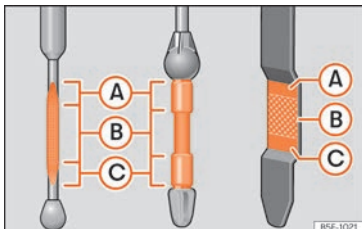

Fig. 224 Engine oil dipstick.
- Then pull it out once more and check the oil level » Fig. 224. Top up with engine oil if necessary.
- When the oil level reaches at least zone » Fig. 224 (B), unscrew the engine oil filler cap carefully » ⓘ.
If the oil level is above area »» Fig. 224 (A), do not start the engine. This could result in damage to the engine and catalytic converter. Contact a specialised workshop.
The oil level must never be above zone »» Fig. 224 (A). Otherwise oil can be drawn in through the crankcase breather and leak into the atmosphere via the exhaust system.